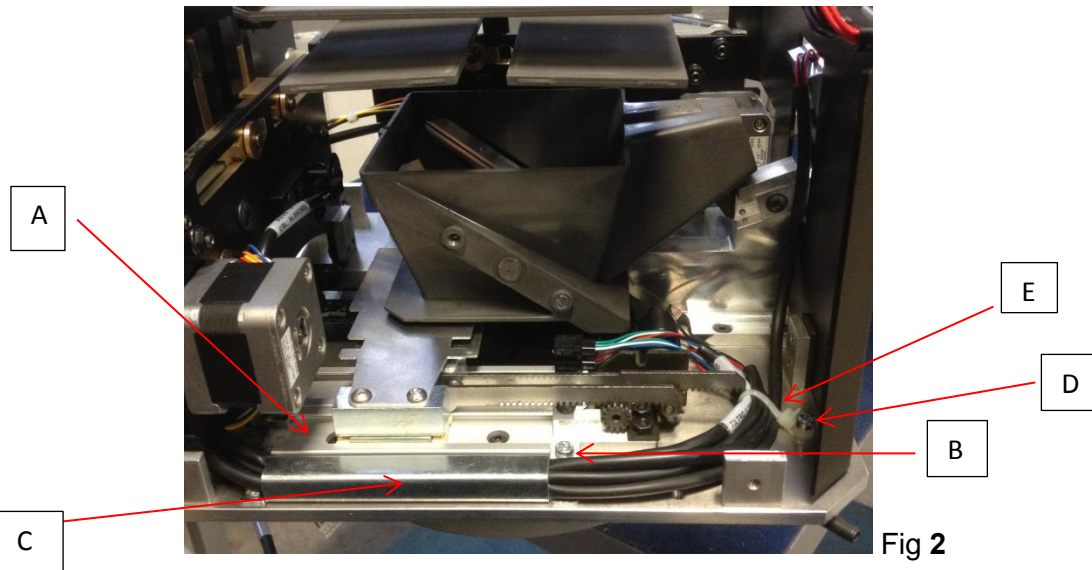

Fig 2
3. Disconnect all four connectors (**CN 4**, **7**, **5**, and **8**) of the optical switches and the motor unit connectors **CN3** and **CN6**. Loosen the screws **A)** and **B)**, remove the cable case **C)** Then, remove screw **D)** and cut the plastic cable tie **E)** as shown in fig. 2